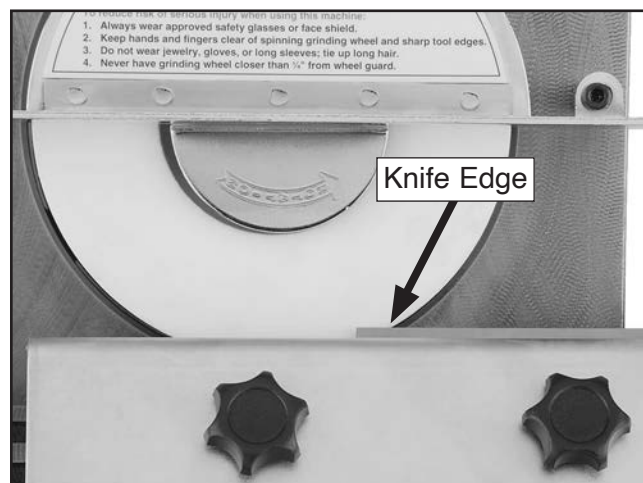

Figure 23. Knife end over right side of wheel.
11. Once you are satisfied with position of knife relative to wheel, raise table until wheel is below table surface, then move slide bar so end of knife is over right side of wheel, as shown in **Figure 23**.